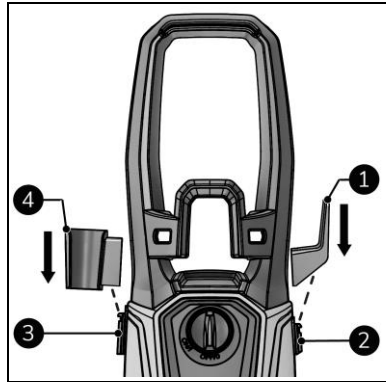

Figure 8
1. Slide the power cable bracket (Figure 8, pos. 1) onto the main body (Figure 8, pos. 2).
3. Slide the jet gun bracket (Figure 8, pos. 4) onto the main body (Figure 8, pos. 3).